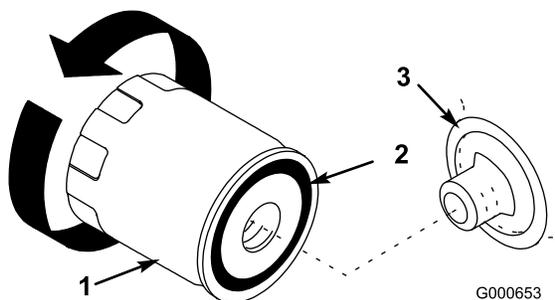

Figure 23
7. Remove the old filter and wipe the filter adapter (Figure 23) gasket surface.
10. Apply a thin coat of new oil to the rubber gasket on the replacement filter (Figure 23).
11. Install the replacement oil filter to the filter adapter. Turn the oil filter clockwise until the rubber gasket contacts the filter adapter, then tighten the filter an additional 1/2 turn (Figure 23).